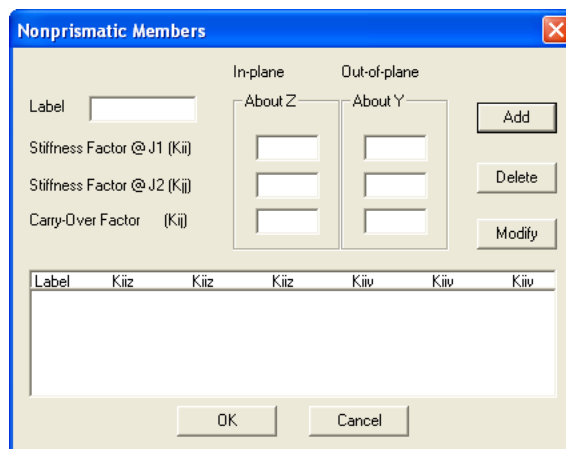

Figure 3-15 Nonprismatic Members dialog box
- From the **Define** menu, select **Nonprismatic Members**. The dialog box of Figure 3-15 appears.